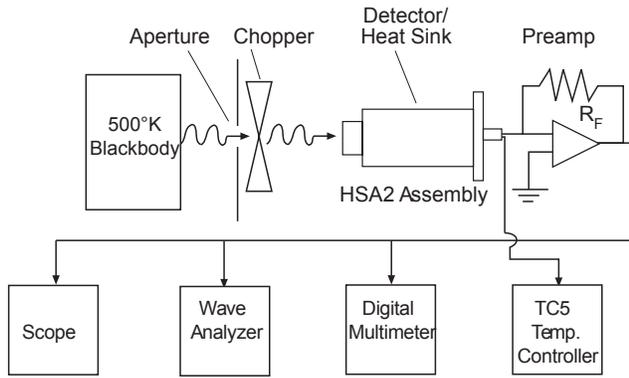

Figure 4.0
All Teledyne Judson detectors undergo stringent quality control testing before shipment. A test setup (Figure 4.0) is used to check J12 Series detectors for responsivity (R) and detectivity (D*).